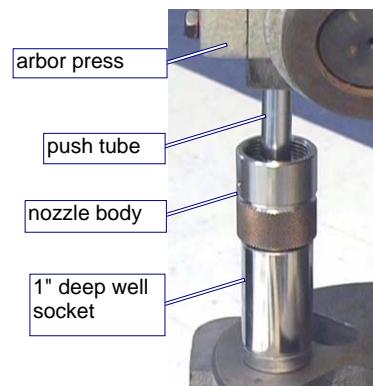

Figure 6-47: Using the Push Tool and Arbor Press to Insert the Mixing Chamber into the Nozzle Body
3. Screw the **mixing tube retainer nut** onto the **nozzle body threads** to prevent thread damage, or place a **1-3/16" deep-well socket** over the **1" hex** on the **nozzle body** for support (Figure 6-47).